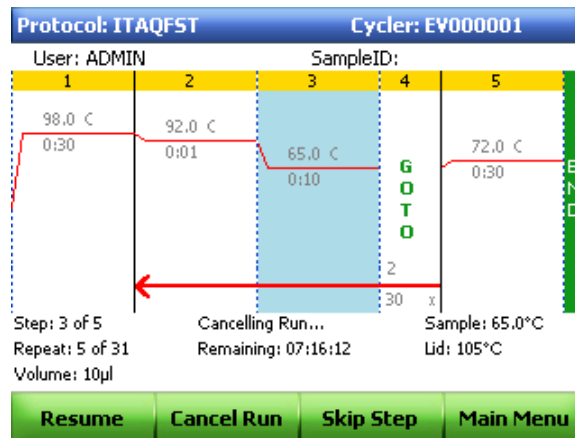

Figure 64. The protocol screen shows one block running.
1. Open the protocol status screen (Figure 64).